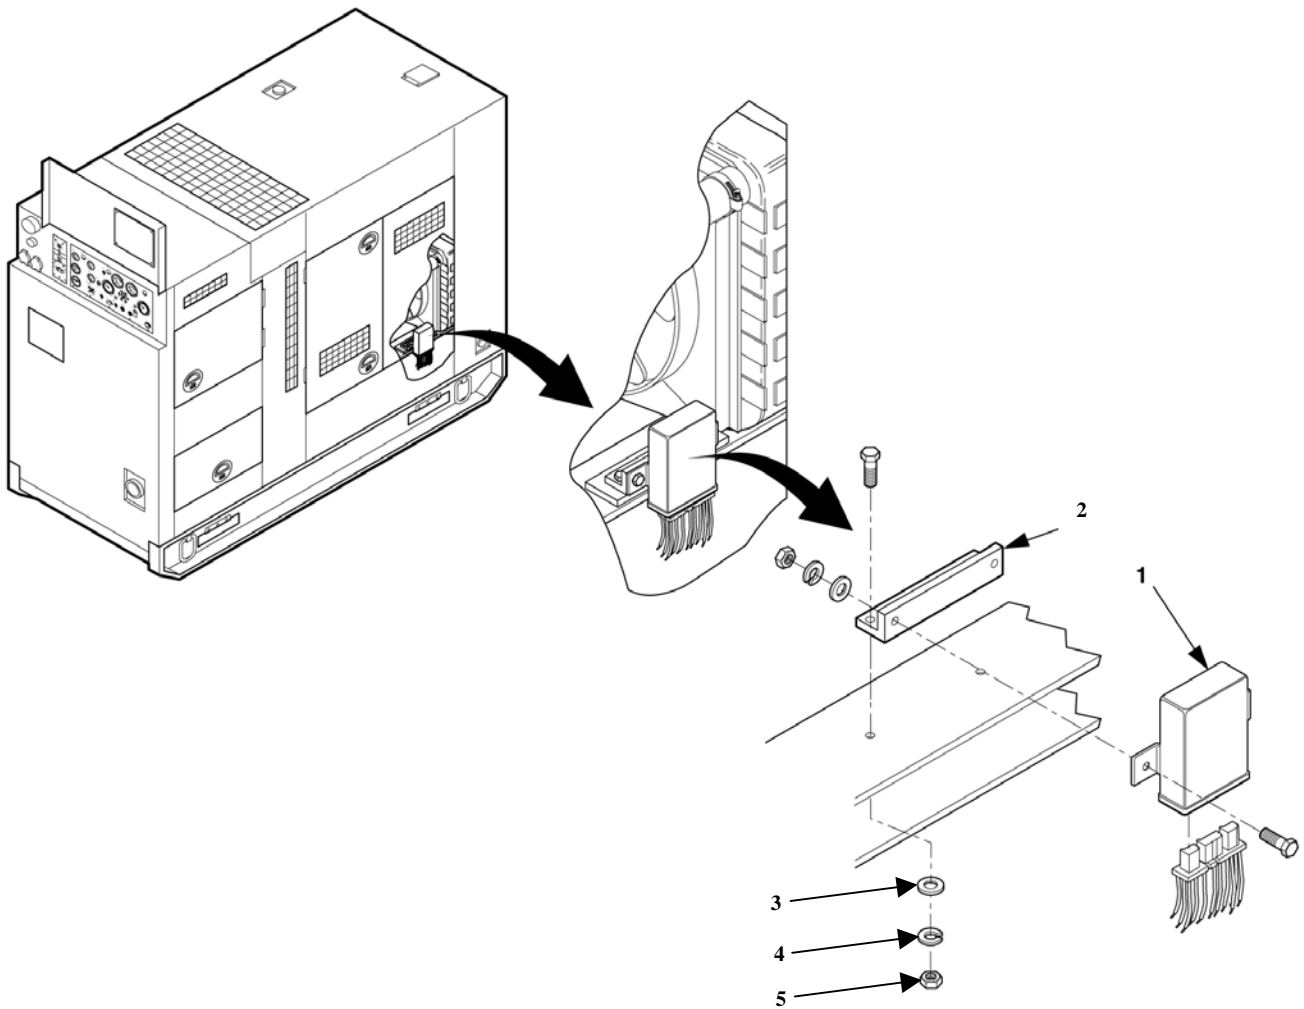

Figure 4-37. Control Unit Removal
6. Remove control unit, (1), Figure 4-37, from control unit mount (2). Replace existing hardware: flatwasher (3), lockwasher (4), and bolt (5).